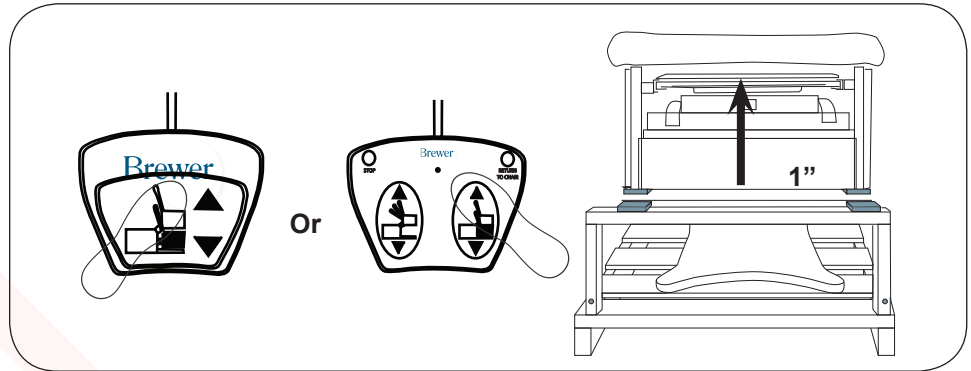

Figure 7. Raise Seat off of Brace
10. Press “Lift Up” on the foot control to raise the seat approximately 1” (Figure 7).